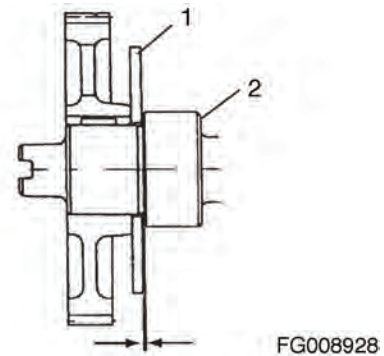

Figure 174
- Method B: Use a feeler gauge to measure the clearance between the thrust plate (1, Figure 174) and front camshaft bearing (2, Figure 174). See "Thrust Bearing" on page -98. for the service limit.